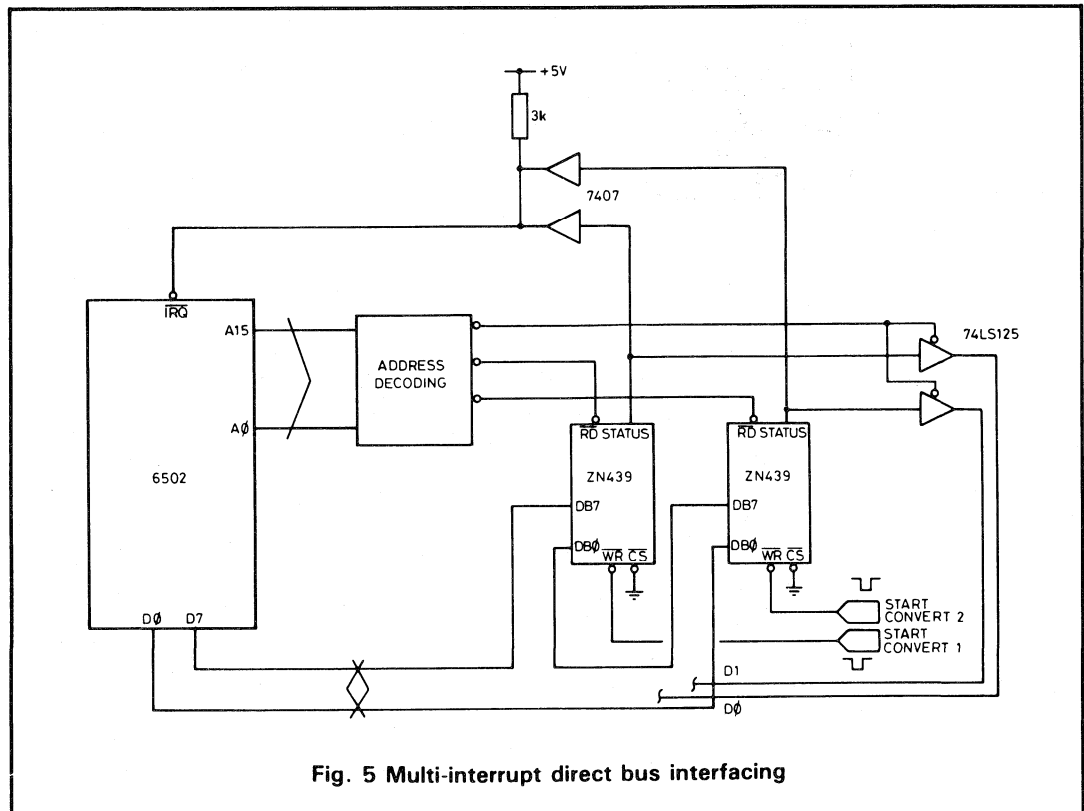
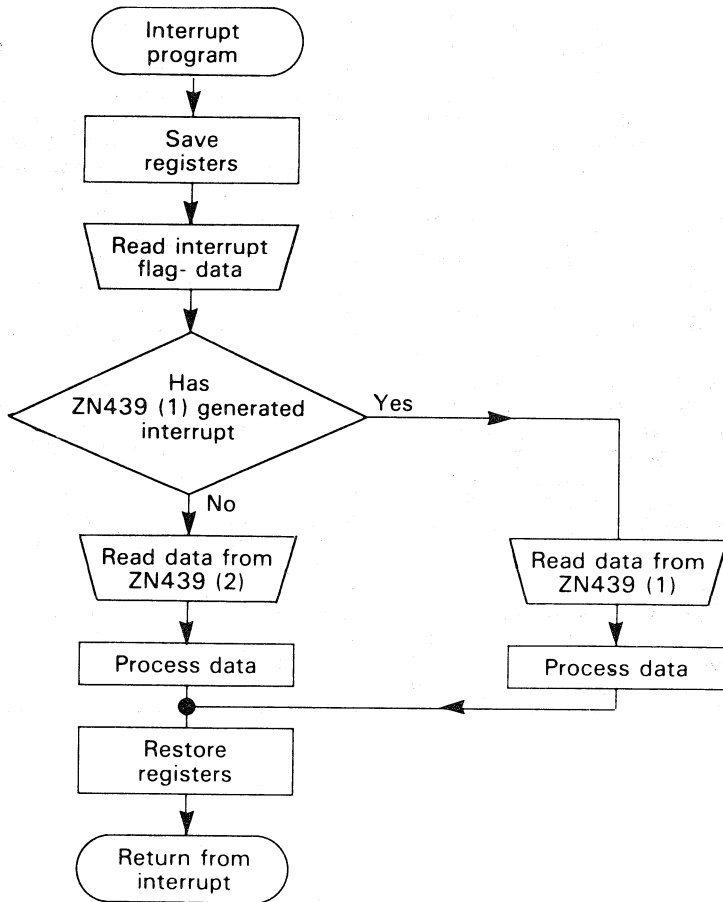

Fig. 5 Multi-interrupt direct bus interfacing
Fig. 6
An example of this is given below where two ZN439's occupy successive addresses in the memory map. Each have separate asynchronous start convert (WR) inputs. The status output of the first is connected to bit 0 and the second to bit 1 of the data bus in the manner described above. By reading the data from the flag address and examining bits 0 and 1, the microprocessor is able to determine which converter has generated the interrupt. A circuit diagram is shown in Fig. 5. A typical interrupt flow diagram and program are given in Fig. 6 and Fig. 7 respectively.